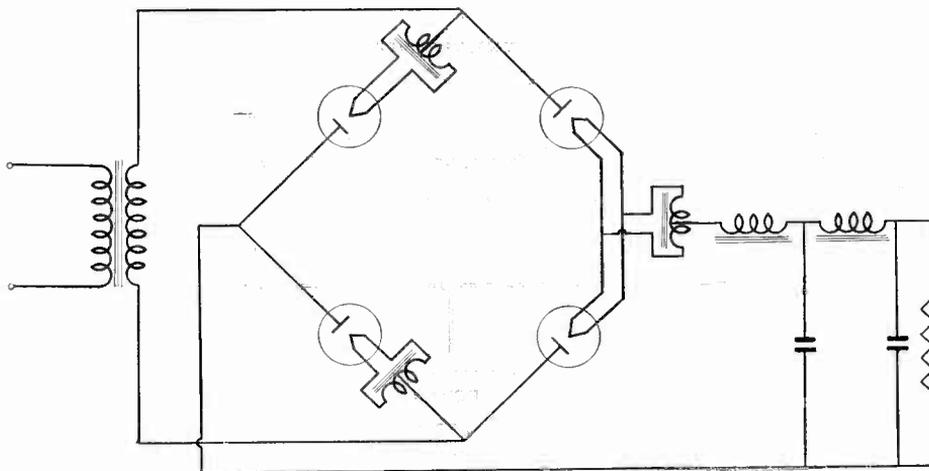

Fig. 2-245
*Ans.* Fig. 2-245 shows the diagram. In this diagram it should be noted that each choke and its associated output condenser form one section of a two-section filter.